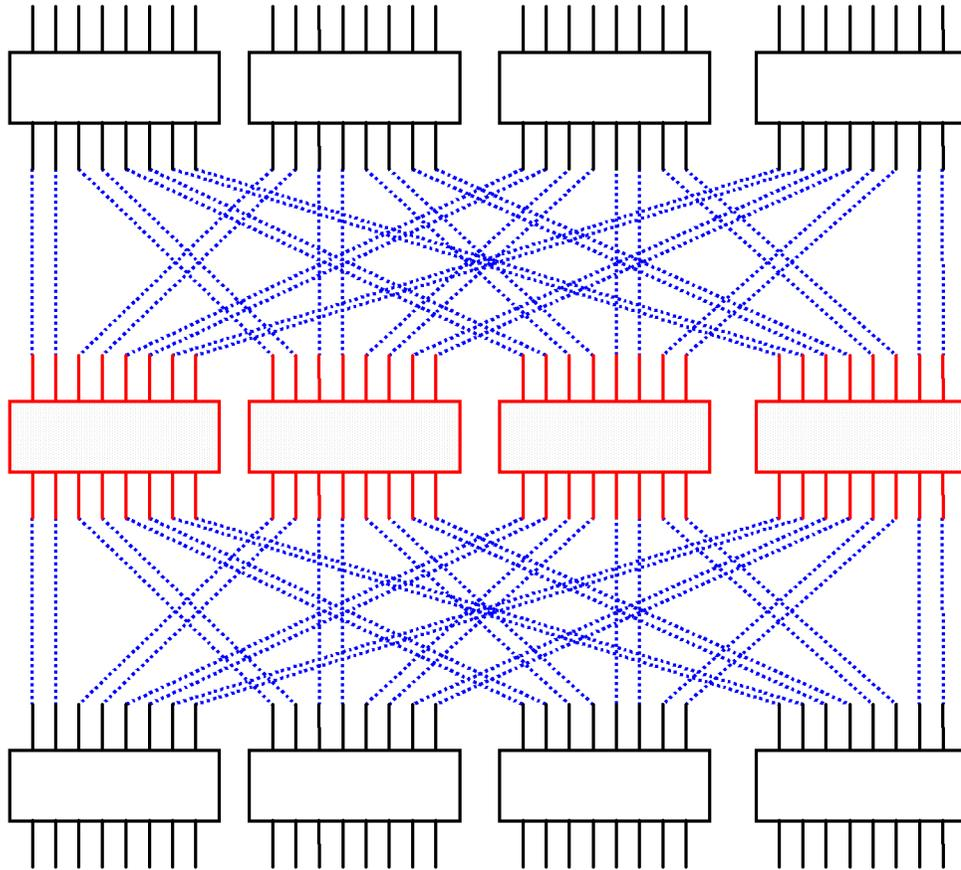

Figure 8. 64-Port High Bandwidth Configuration
**NOTE:** Figure 8 is a logical representation of the switches in this configuration. The following tables list the physical ISL cables with the source and destination port used for the 64-Port high bandwidth configuration.